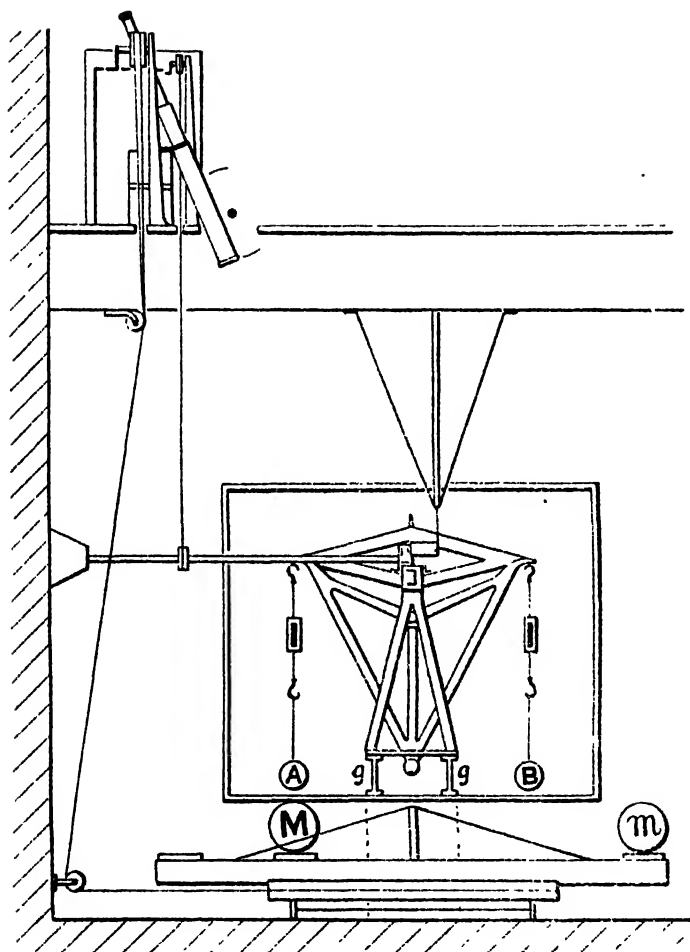

FIG. 69.—Poynting's apparatus (modified from the author's drawing. Phil. Trans. 1891).
No experiment to determine the force of gravitation can be a simple one, because the attraction of two bodies of a size that can be handled and at a reasonable distance from each other is only a thousand-millionth of their weights. Consequently, the balance which will measure this attraction must be far more accurate than even a good chemical balance. All sorts of minute errors have to be allowed for. However, we can at least see the kind of way it can be done. Professor J. H. Poynting in 1890 set up an apparatus like that in Fig. 69. He hung two 40 lb. balls (A, B) of lead from the most delicate balance which would bear such a weight. Under the balance he had a turntable which bore a mass (M) of about 300 lbs. of lead. By swinging this round, he could bring the big mass (M) under either of the smaller masses A or B. The masses attracted each other, and he found the difference between the position of the pointer when M was under A and when M was under B. The attraction of M for A was only about equal to the weight of a fifth of a milligramme (about the weight of a droplet of water, a fortieth of an inch in diameter), and the total load on the balance pans was about 80 lbs., so it is not surprising that the weighing was most laborious.